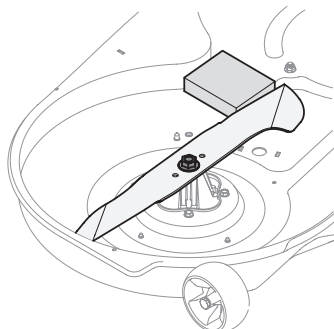

Figure 35
2. Place a block of wood between the center deck housing baffle and the cutting blade to act as a stabilizer. See Figure 35.
3. Remove the hex flange nut that secures the blade to the spindle assembly. See Figure 35.
3. Place a block of wood between the deck housing baffle and the cutting blade to act as a stabilizer. See Figure 35.